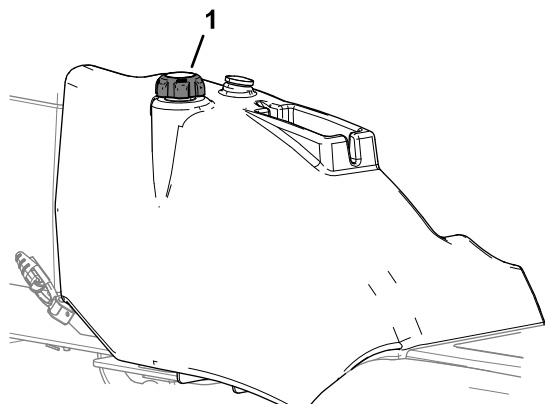

Figure 16
- Remove the cap from the fuel tank (Figure 16).